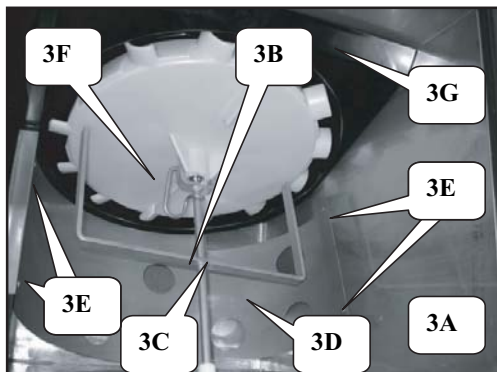

FIGURE 2
3. Remove all ice from the ice storage bin (3A) of dispenser in which the cooling coil heat exchange will be installed (See Figure 2). On Servend 302 and 402 ice beverage dispensers remove ice from left side ice storage bin only. Remove the paddlewheel pin or pins (3B), agitator bar (3C), double –D coupling [where applicable], bin liner (3D) the four knurled bin liner screws (3E), paddlewheel (3F), paddlewheel area bushing [where applicable] and paddle wheel area (3G) from ice storage bin (3A) (See Figure 2). On Servend 302 and 402 ice beverage dispensers remove the components previously listed from the left side ice storage bin only. Keep all removed components in a safe place for reinstallation later.